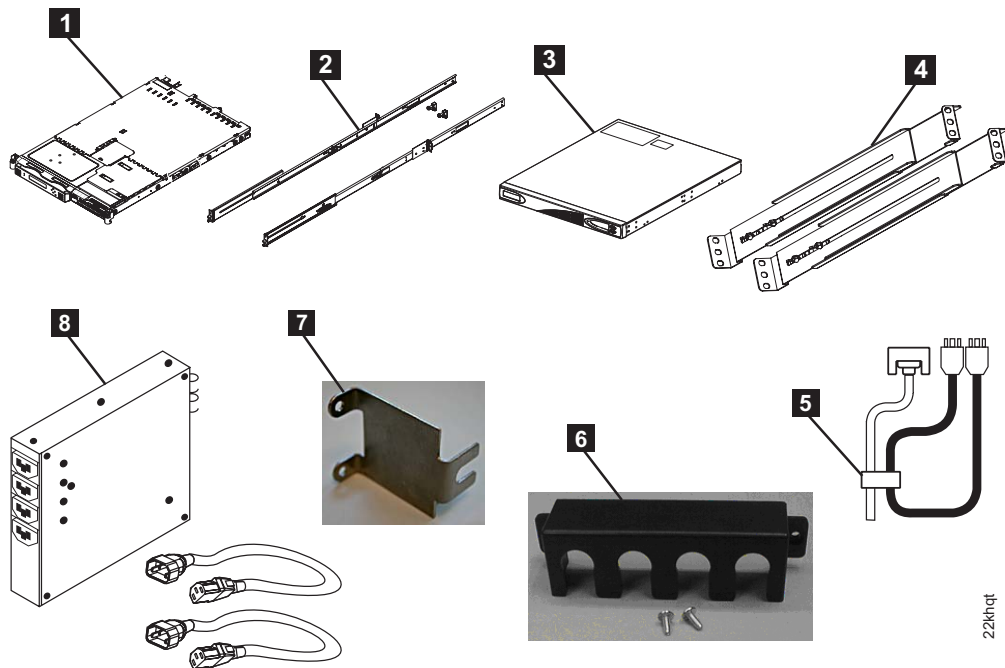

Figure 10. Parts provided for SAN Volume Controller hardware installation in a rack
2. Check all the parts and quantities against the parts that are shown in Figure 10 on page 36 to make sure that everything has been delivered. If any piece is missing, contact the appropriate IBM representative.